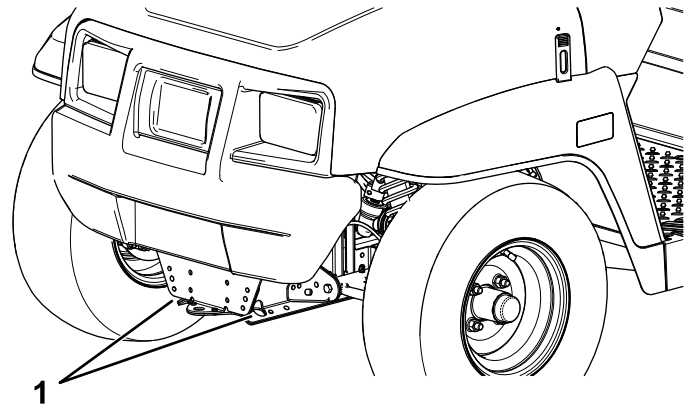
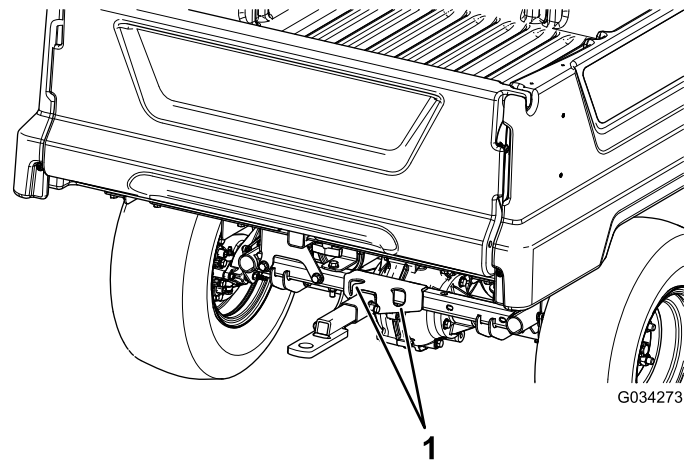

Figure 21
Figure 22
Refer to Figure 21 and Figure 22 for the tie-down locations on the machine.
2. Affix a tow line to the tongue at the front of the machine's frame (Figure 21).